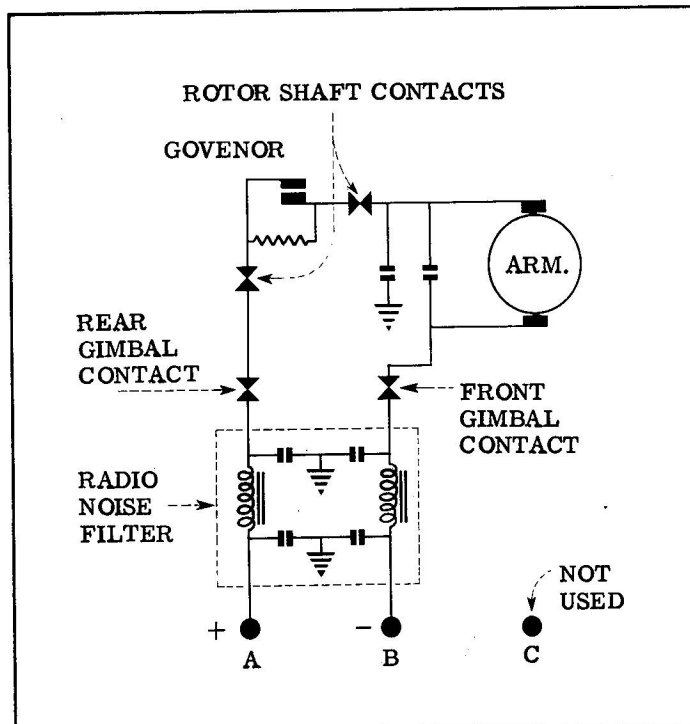

Figure 4-22. Wiring Diagram, Model B4B-L
DISASSEMBLY. (See figure 4-21.) Same as Model B4 except that filter assembly (40) replaces individual radio noise filtering components used on Model B4, and insulation (44) is used between insulating washer (45) and the filter assembly. The negative side of the electrical circuit is insulated throughout with insulation (81), and (114), and pivots (90), and (100). Condenser (105) is used between negative brush arm assembly (101) and ground. See figure 4-22 for wiring diagram. Rear plate (48) is mated to frame (127). Gimbal end (65) is mated to gimbal (107).
TEST PROCEDURE. Same as Model B4 except that pointer deflections must be within tolerances listed in Table IX. See figure 4-22 for wiring diagram.